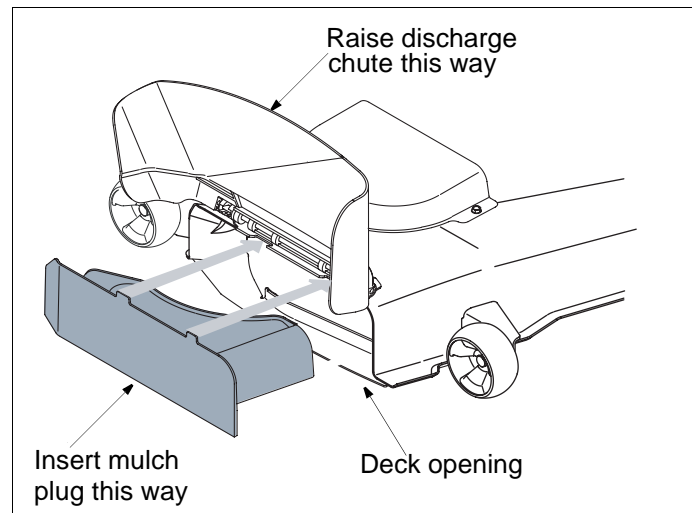

Figure 2
- Pivot the discharge chute up to access the deck opening. See Figure 2.
- Insert the mulch plug in the deck opening, aligning the top edge of the plug with the deck. Make sure the notches on the plug are in the slots on the deck opening. See Figure 2.